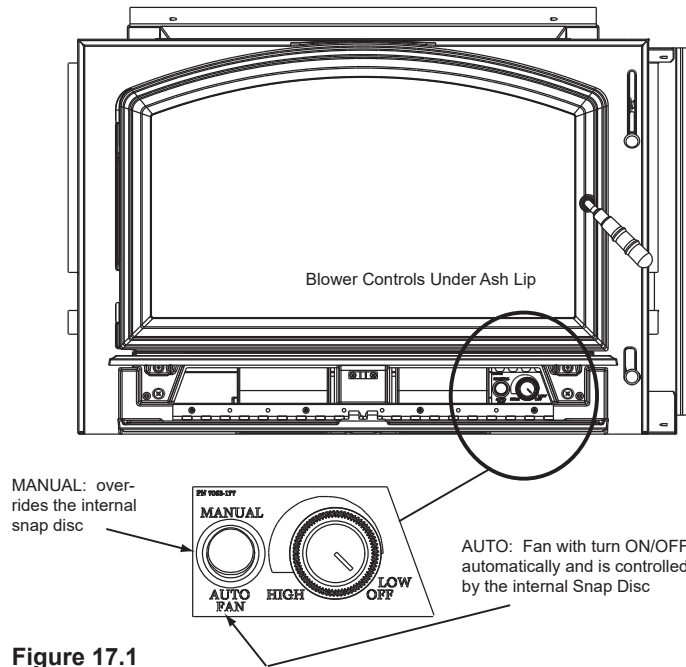

Figure 17.1
1. The blower will turn on/off automatically when set to AUTO (Figure 17.1 on page 17).